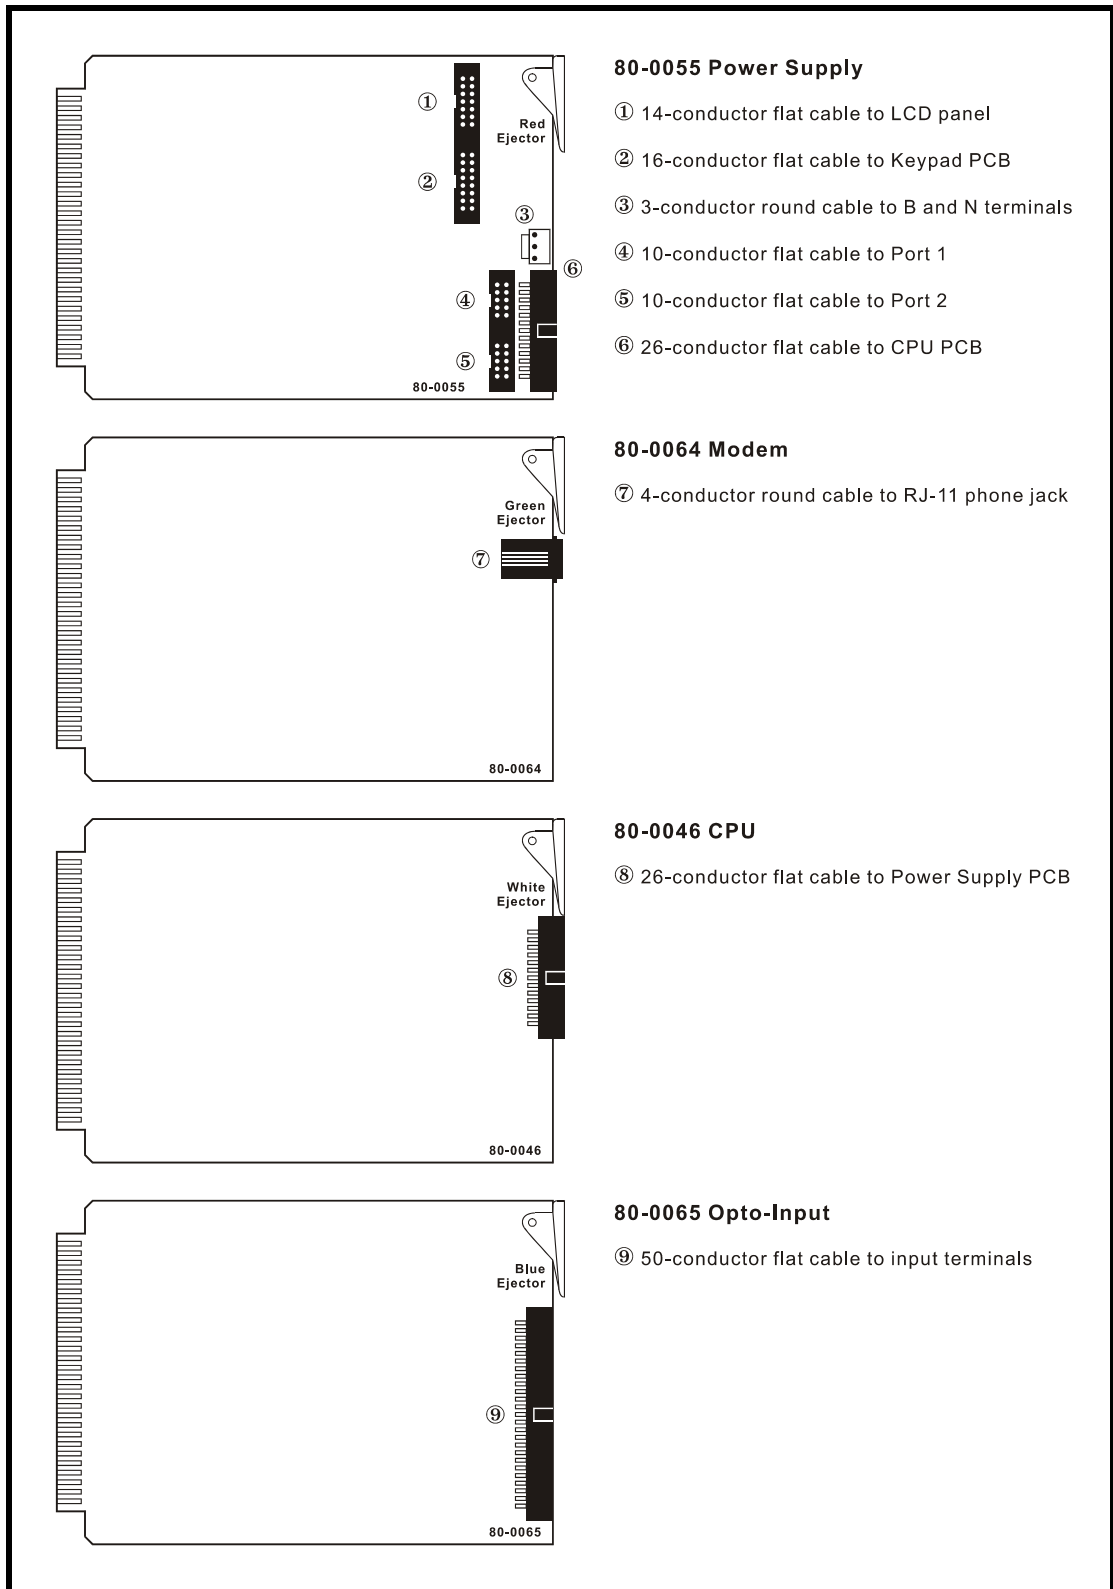

Figure 5 - PCB Cable Terminations
2. Carefully remove any cables attached to connectors mounted on the PCB. Refer to Figure 5 on page 56 for details on where the various internal cables are attached.